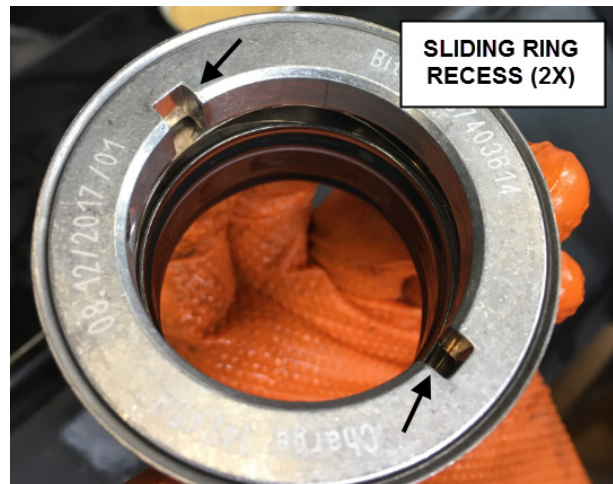

FIGURE 33: SLIDING RING RECESSES
- Make sure that the shaft pin engages in one of the sliding ring recesses (figure 33).